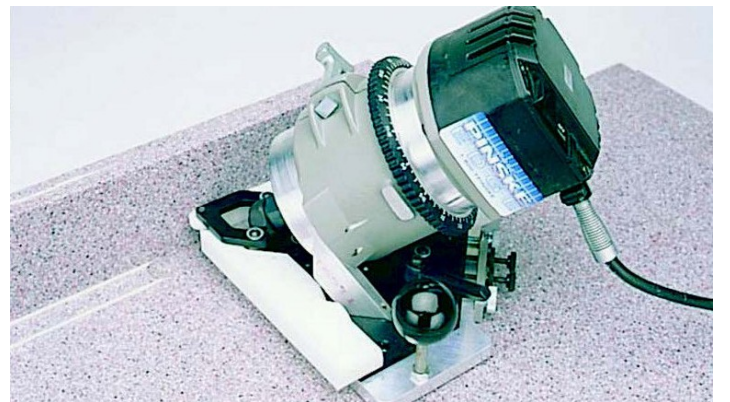

Figure 33C
- After adhesive has cured completely, rout over strip. (FIG. 33C)